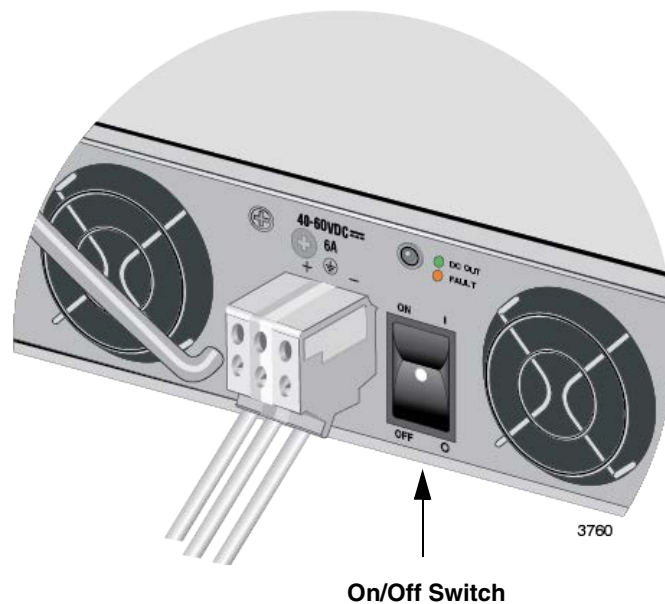

Figure 62. On/Off Switch on the AT-PWR250-80 DC Power Supply
2. Set the On/Off switch on the power supply to On. Refer to Figure 62.